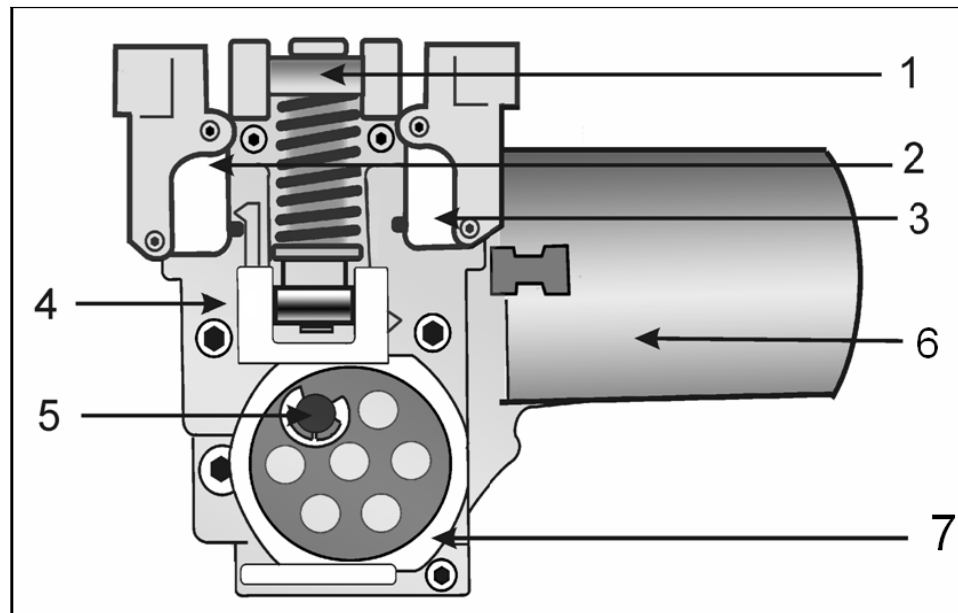

Figure 030-1: Heater Plate
The heater plate drives are actuated by the user via the foot plate (refer to Section 010-2.3). The drive motor (Figure 030-1, Item 6) is then energized with 24VDC. The shaft of the drive motor is connected to the eccentric cam (Figure 030-1, Item 7) via an E-clip connection (Figure 030-1, Item 5); as the drive motor turns, the eccentric cam rotates. The rotation of the eccentric cam moves the guide strips (Figure 030-1, Item 4) and applies pressure to the spring (Figure 030-1, Item 1), causing the heater plate to close against the roller. Power to the motor is interrupted as the guide strip actuator contacts the “plate on roller switch” (Figure 030-1, Item 2), leaving the heater plate against the roller for ironing.
When the user releases the foot pedal, the drive motor is energized in the opposite direction. The eccentric cam rotates; pressure is released from the spring and the heater plate moves away from the roller. The drives continue until the “plate off roller switch” (Figure 030-1, Item 3) is actuated by the guide strip.
4. Remove the T20 screws from the left and right plastic guide strips on either side of the cam. See Figure 030-1, Item 4.
7. Remove the E-clip securing the shaft to the cam (Figure 030-1, Item 5).